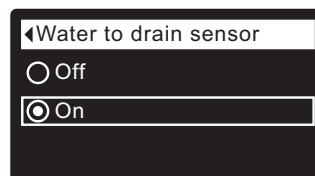

FIG. 74
- If the desired option already has a dot next to it (See Figure 74), go to Step 9. Otherwise, press the DOWN (▼) or UP (▲) buttons to scroll to the other option, then press SELECT (O) to choose it.